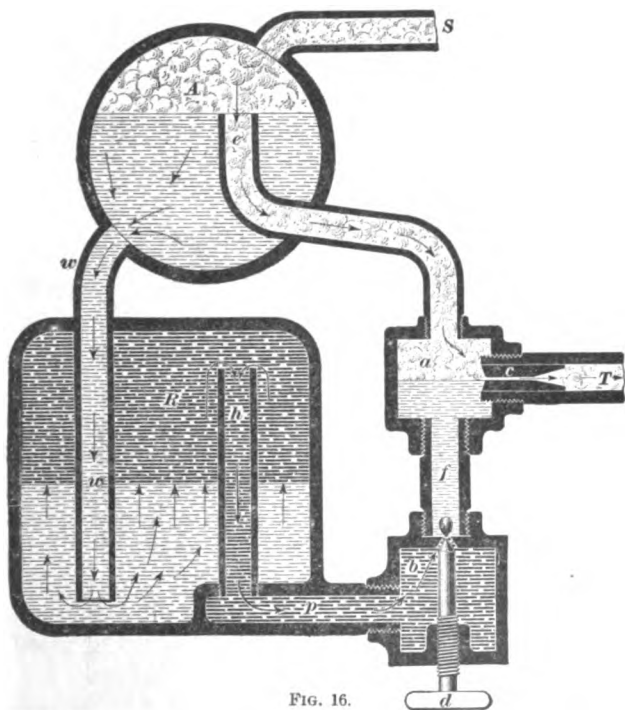

FIG. 16.
**43.** The principle on which the sight-feed lubricator operates can best be explained by reference to Fig. 16, which represents a conventional form of lubricator. *R* is an oil reservoir, and *A* a chamber above it, communicating with the boiler through the steam connection *S*. Into this chamber, called a **condenser**, steam enters, and part of it is condensed, maintaining the chamber filled with water up to a certain level, as shown. A tube *w* connects the condenser with the bottom part of reservoir *R*. The feed-glass *f* is in communication with the oil reservoir through chamber *b* and passages *p* and *h*.